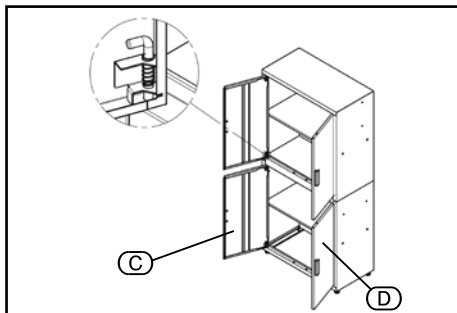

FIG. 11
8.10 INSTALLING THE DOORS – FIG. 11